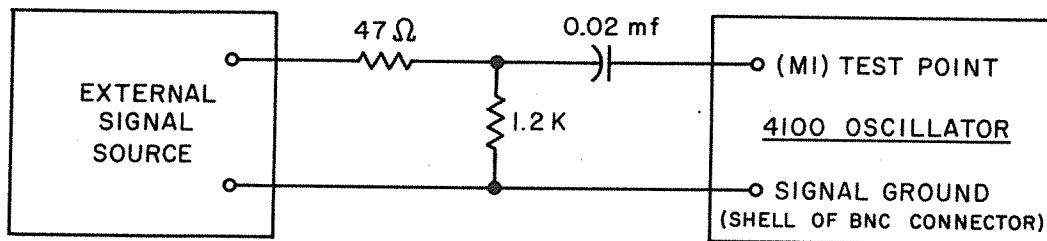

Figure 4. Circuit for External Signal Application
Connect an external signal source and network to the test point (MI) in the Oscillator as shown below in Figure 4. The signal ground of the external signal source should be connected to the shell of the sine wave output BNC connector. This source should be capable of providing a 10 volt rms sine wave into 1000 ohm load at 10 kHz. Adjust the external source to approximately 8 volts rms at 10 kHz, and set the Oscillator to 10 kHz (1-0-0, x 100). Check the Oscillator sine wave output voltage. This should be a sine wave with an amplitude of approximately 10 volts rms. If this signal is incorrect, the trouble is probably in the MAIN Amplifier and reference to Section 4.5 is recommended. If the signal is correct, check the AVC Amplifier output signal at the test point (AO). Adjust the external source until the Oscillator
When there appears to be trouble in the AVC circuits, the Oscillator should remain set up for a 10 kHz external input signal as shown in Figure 4. The short circuits from the test points should be removed and the signal from the external source should be varied in amplitude so that the Oscillator sine wave output varies from 9 to 11 volts rms. While making this variation the AVC Amplifier output signal at test point (AO) should be observed. When the Oscillator sine wave output is at 9 volts rms, the (AO) signal should be a square wave of at least 0.3 volts peak to peak amplitude leading the Oscillator sine wave output by approximately 90° . When the output is at 11 volts rms, the (AO) signal should be a square wave with an amplitude of at least 0.3 volts peak to peak, lagging the Oscillator sine wave output by approximately 90° . As the output is varied through 10 volts, the (AO) signal should go through a null. If this action takes place, the entire Fast AVC circuit is probably functioning properly. Proceed to check the Slow AVC circuit by referring to Section 4.6.2. If the (AO) signal is not normal, refer to Section 4.6.1.
If the AVC Amplifier output signal (AO) is not correct, connect the external signal as shown in Figure 4 and check the input to the AVC Amplifier at test point (AI). This signal normally should be an approximate square wave varying through a null as the Oscillator sine wave output is varied from 9 to 11 volts rms. The (AI) signal